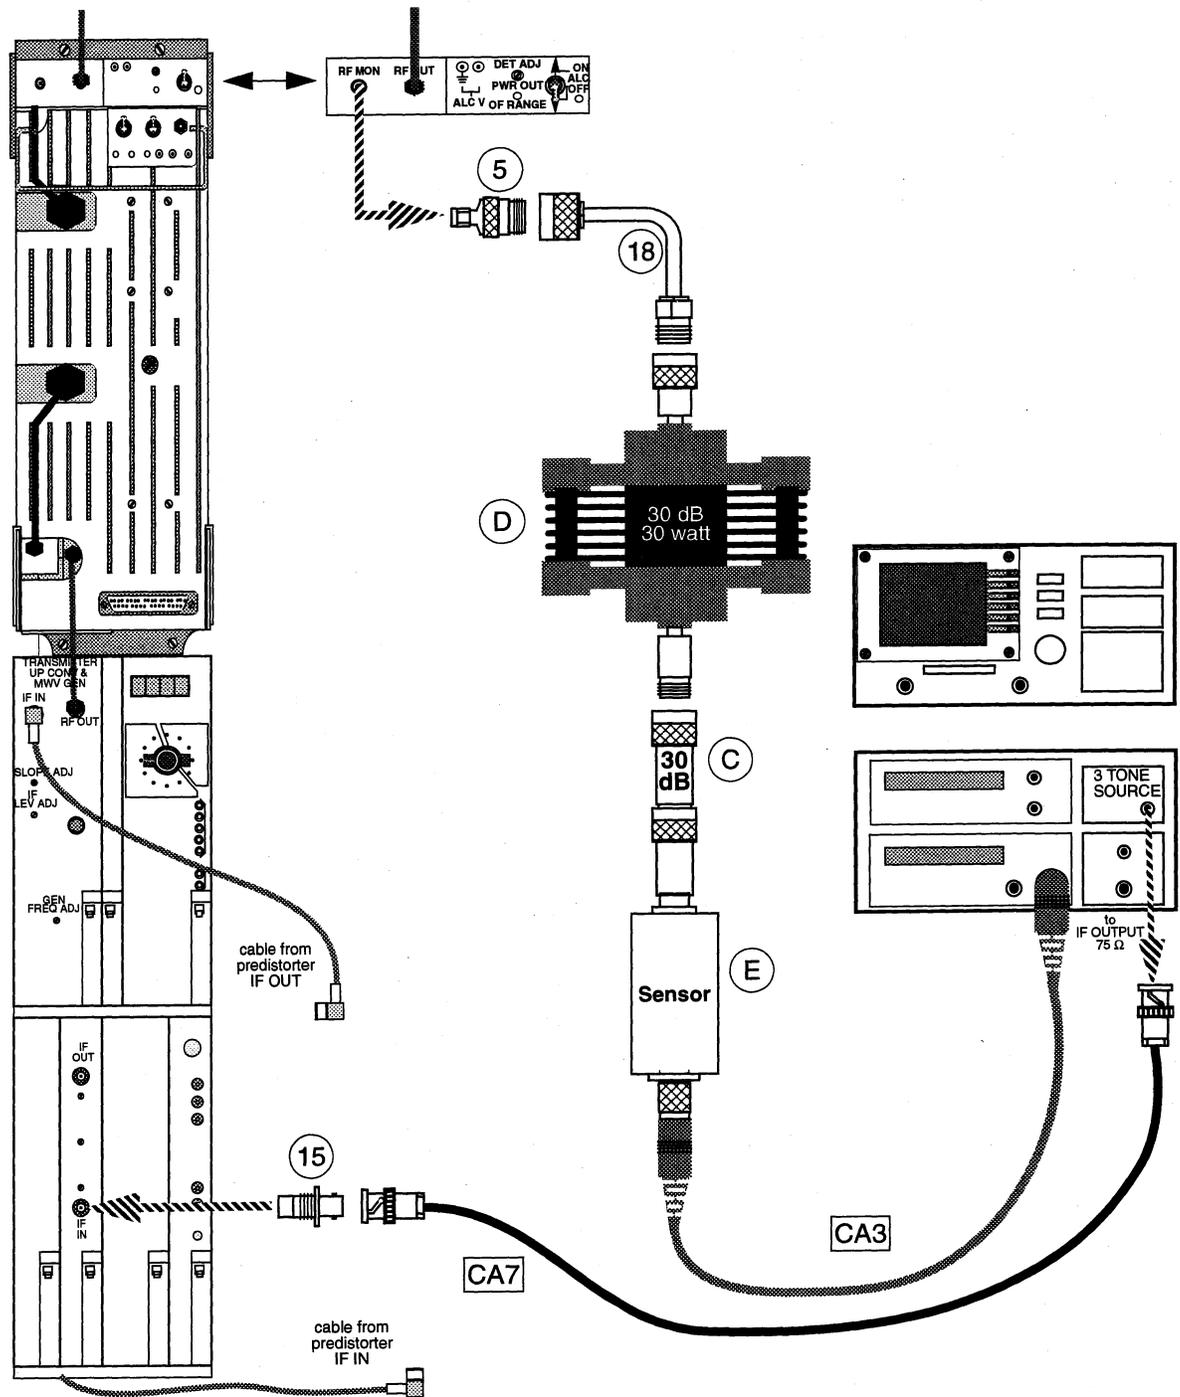

Figure 7. RF MON Power Measurement (with 3-Tone Test Signal Applied)
- 13 Connect the test equipment as shown in Figure 7.